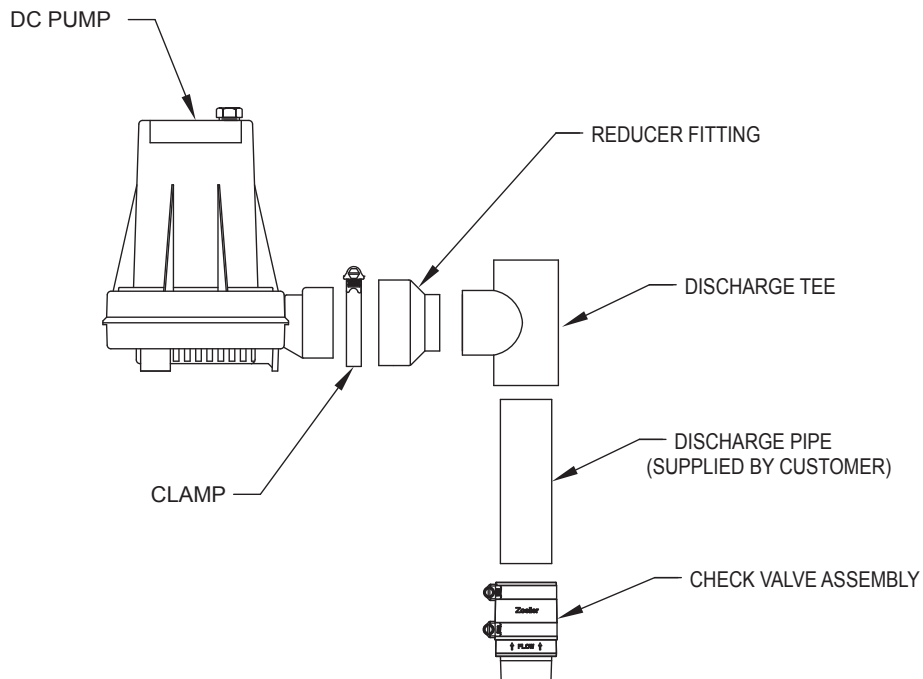

FIGURE 4
6. Solvent weld DC discharge reducer fitting to tee as shown in Figure 4. Then ensure o-ring is properly located on pump discharge. Slide DC pump into the fitting and tighten the hose clamp.
8. Determine the position of the DC pump and measure between the in-line check valve and tee. Use that measurement to cut discharge pipe. Solvent weld that piece first to the tee. Measure, cut & solvent weld any remaining discharge piping above the tee. Finally, connect the discharge pipe to the in-line check valve and tighten hose clamp. See Figure 4.